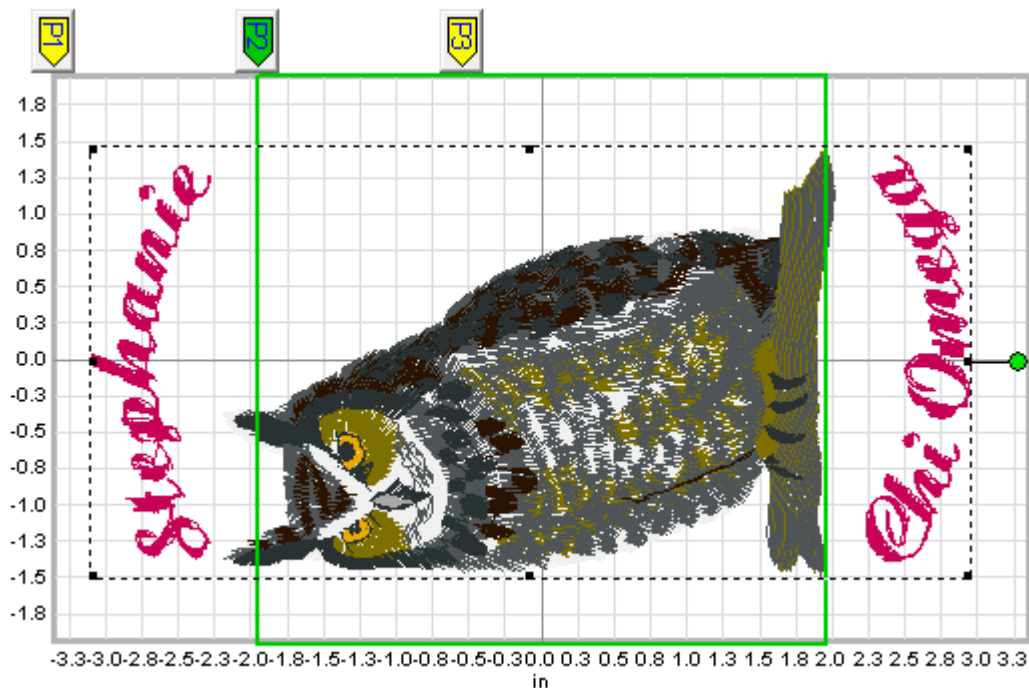

Figure 2 A three-position positional hoop, with positions P1, P2, P3 displayed in SewWhat-Pro.
- **Positional Hoops** are included in the hoop size list (you may have to scroll to the bottom of the list) and are labeled as such. They will appear on the screen with arrow-markers to indicate the position of the hoop stops for the overlap hoop sections. You can click those markers to display the individual hoop positions. In the positional hoop shown in Fig. 2, there are 3 hoop positions P1-P3. Below, the middle hoop position P2 has been clicked to show the (green) hoop at that position. See separation mode toolbar for further information about cutting patterns to fit positional hoops.